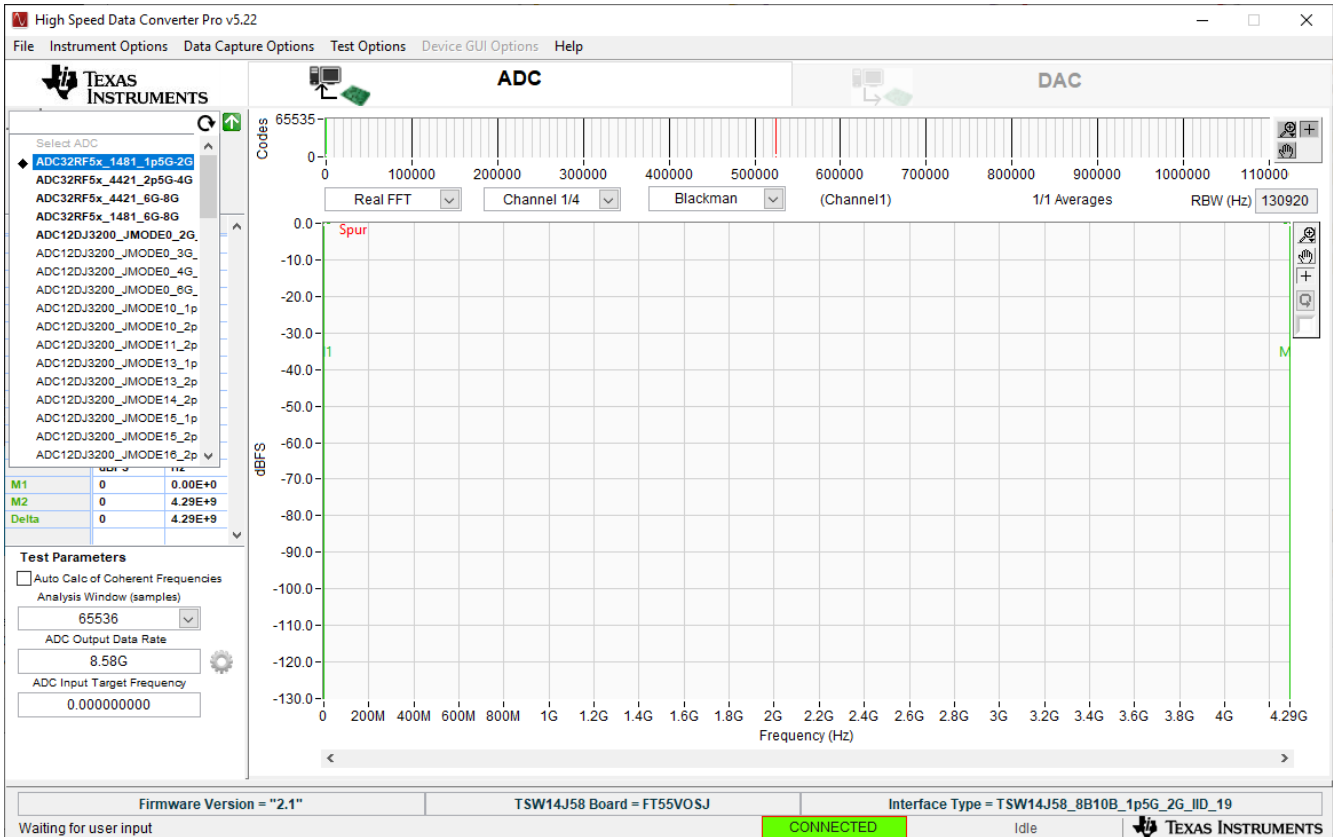

Figure 3-11. ADC32RF5x_1481_1p5G-2G INI file
10. In HSDC Pro, connect to the TSW14J58EVM and select *ADC32RF5x_1481_1p5G-2G* as the INI file shown in Figure 3-11.